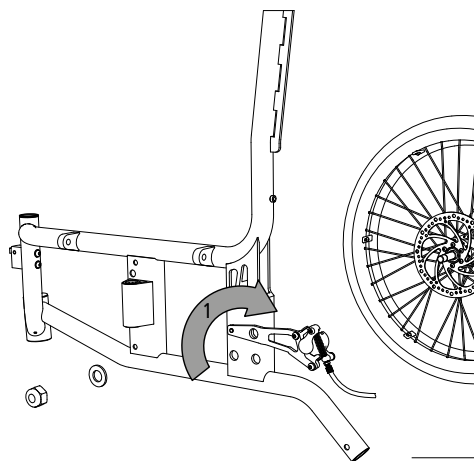

Fig. 46
1. If a brake for an attendant is optionally installed, then completely release the brake cables of the disc brake on both sides and pull out the brake cable (1, Fig. 46).